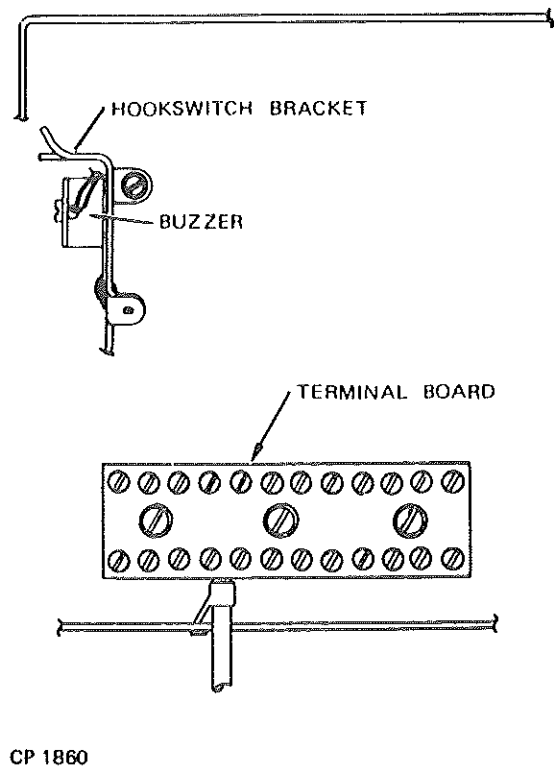

Figure 6. S-C Q-20 Buzzer, Mounting
2. Mount the buzzer to the telephone hookswitch mounting bracket (fig. 6). Use screw packed with the buzzer.